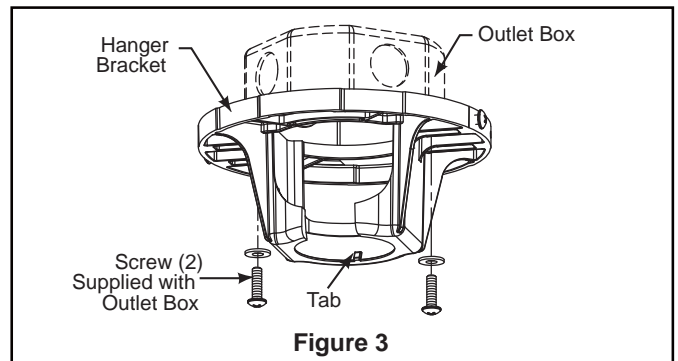
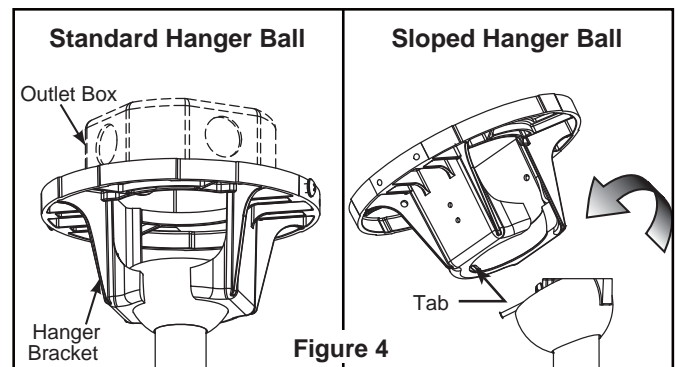

Figure 3
Figure 4
- 1. Securely attach the hanger bracket to the outlet box using the outlet box screws and washers supplied with the outlet box (Figure 3).
NOTE: Outlet box screws pass through slotted holes of the hanger bracket (Figure 3).
Carefully lift the fan and seat the downrod/hanger ball assembly on the hanger bracket that was just attached to the outlet box (Figure 4). Be sure the groove in the ball is lined up with tab on the hanger bracket (Figure 3).